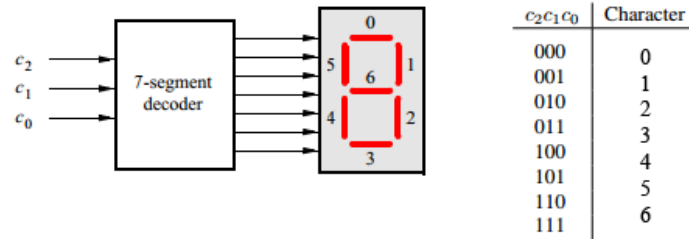

Figure 9: 7 segment display and decoder
The 7-segment display is comprised of 7 LEDs that are arranged in such a way that allows for the creation of the numbers 0-9 and a select few characters with some clever use. Figure 9 shows the block diagram and output table. Your task is to create a 3 input, 7 output decoder that will display a number from 0-6. To accomplish this task, you should program the switches SW(0) - SW(6) to make the first 7 displays show the numbers 0-6 when its switch is turned on.